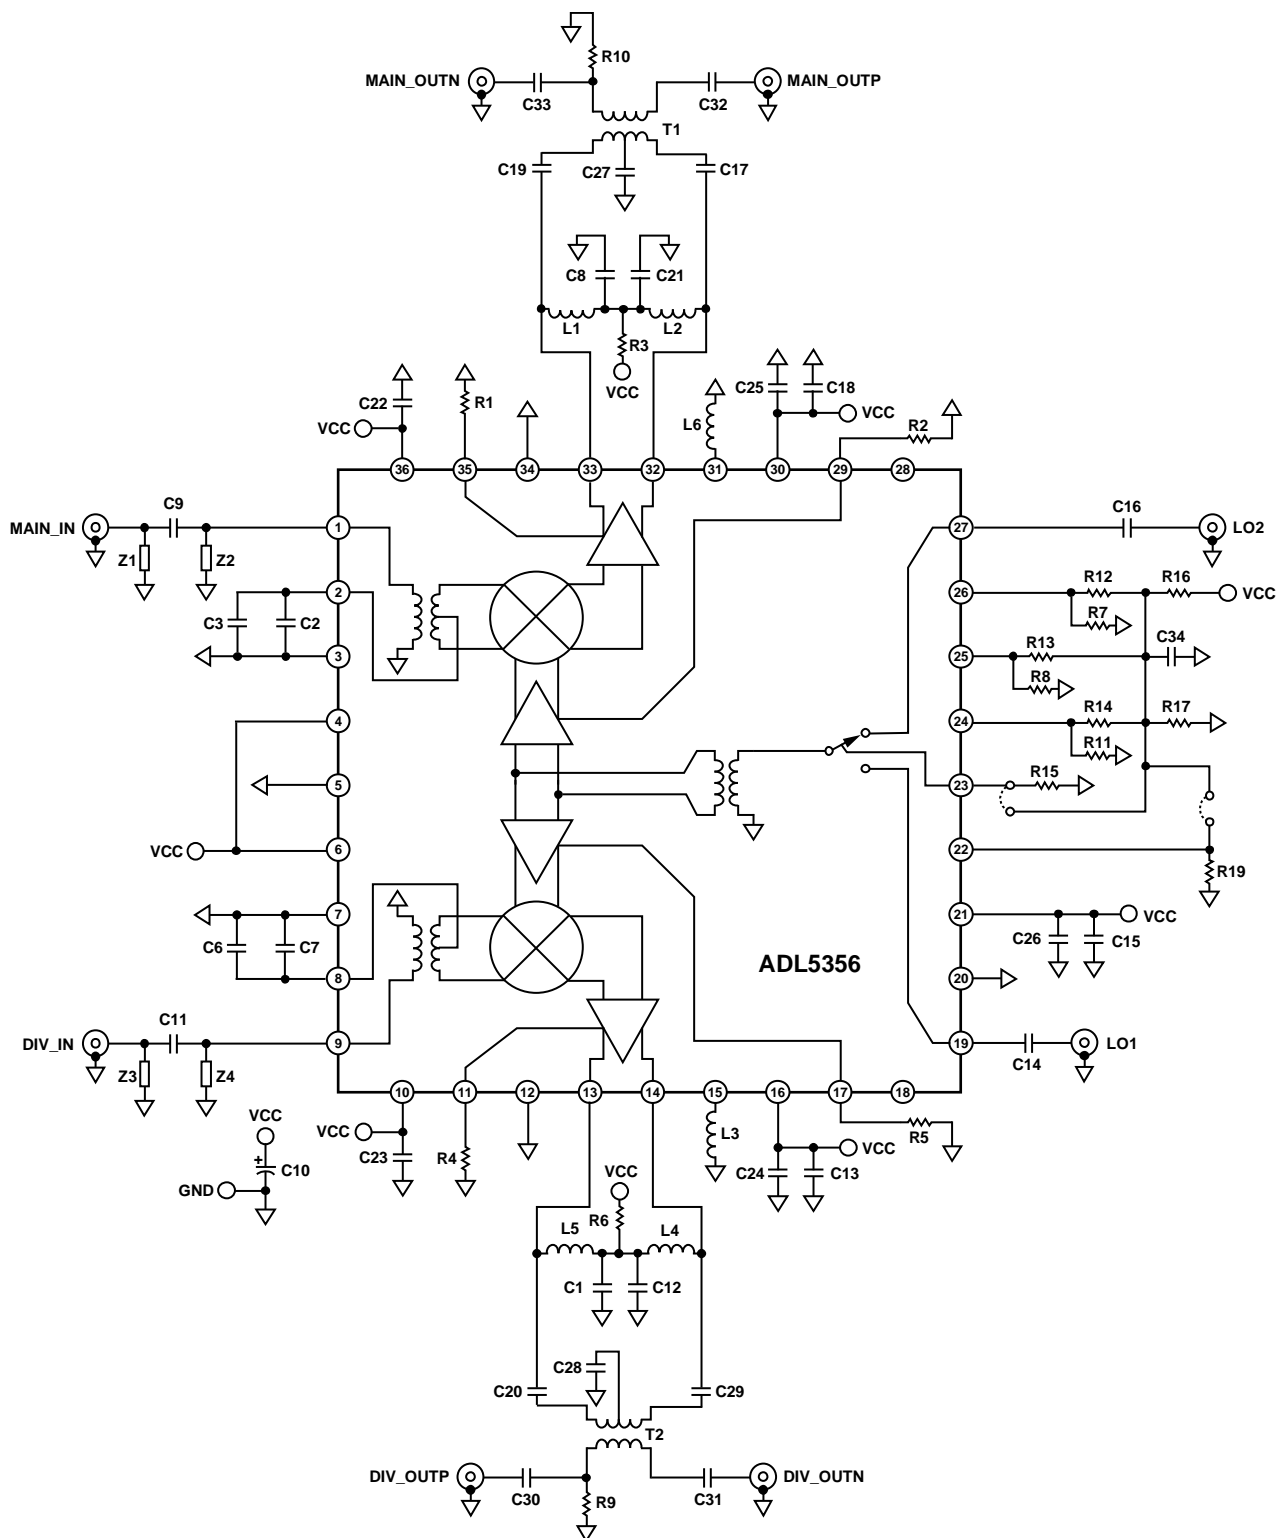

Figure 53. Typical Application Circuit
The ADL5356 mixer is designed to downconvert radio frequencies (RF) primarily between 1200 MHz and 2500 MHz to lower intermediate frequencies (IF) between 30 MHz and 450 MHz. Figure 53 depicts the basic connections of the mixer. It is recommended to ac-couple the RF and LO input ports to prevent non-zero dc voltages from damaging the RF balun or LO input circuit. The RFIN matching network consists of a series 1.8 pF capacitor and a shunt 15 nH inductor to provide the optimized RF input return loss for the desired frequency band.
The real part of the output impedance is approximately 200 Ω , as seen in Figure 30, which matches many commonly used SAW filters without the need for a transformer. This results in a voltage conversion gain that is approximately 6 dB higher than the power conversion gain, as shown in Table 3. When a 50 Ω output impedance is needed, use a 4:1 impedance transformer, as shown in Figure 53.